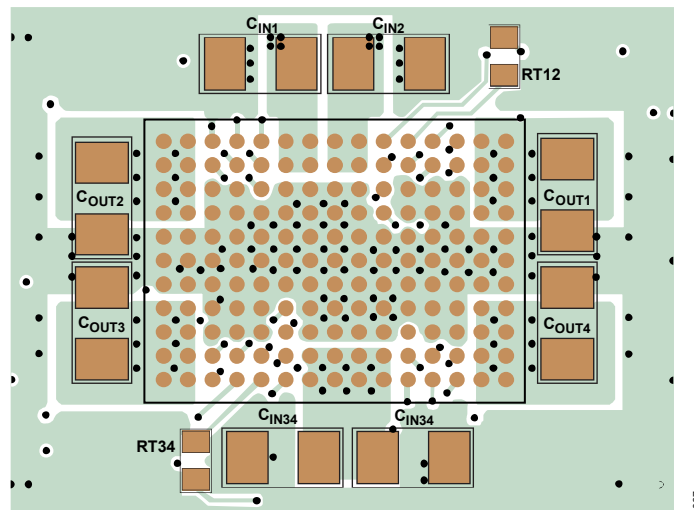

Figure 67. Layout Showing Suggested External Components, GND Plane, and Thermal Vias
Most of the headaches associated with PCB layout design have been alleviated or even eliminated by the high level of integration of the LTM8060F. The LTM8060F is nevertheless a switching power supply, and care must be taken to minimize EMI and ensure proper operation. Even with the high level of integration, you may fail to achieve specified operation with a haphazard or poor layout. See Figure 67 for a suggested layout. Ensure that the grounding and heat sinking are acceptable.
6. Use vias to connect the GND copper area to the board's internal ground planes. Liberally distribute these GND vias to provide both a good ground connection and thermal path to the internal planes of the PCB. Pay attention to the location and density of the thermal vias in Figure 67. The LTM8060F can benefit from the heat sinking afforded by vias that connect to internal GND planes at these locations, due to their proximity to internal power handling components. The optimum number of thermal vias depends upon the PCB design. For example, a board might use very small via holes. It should employ more thermal vias than a board that uses larger holes.